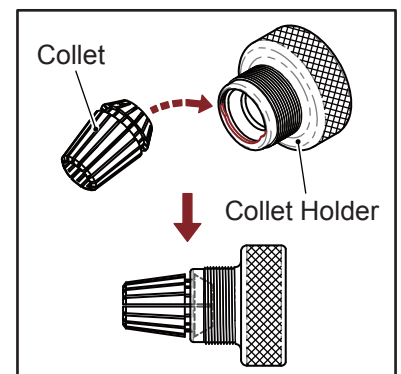

Fig. 5-1
- 2) Put the collet into collet holder by 45° angle. (Fig. 5-1)